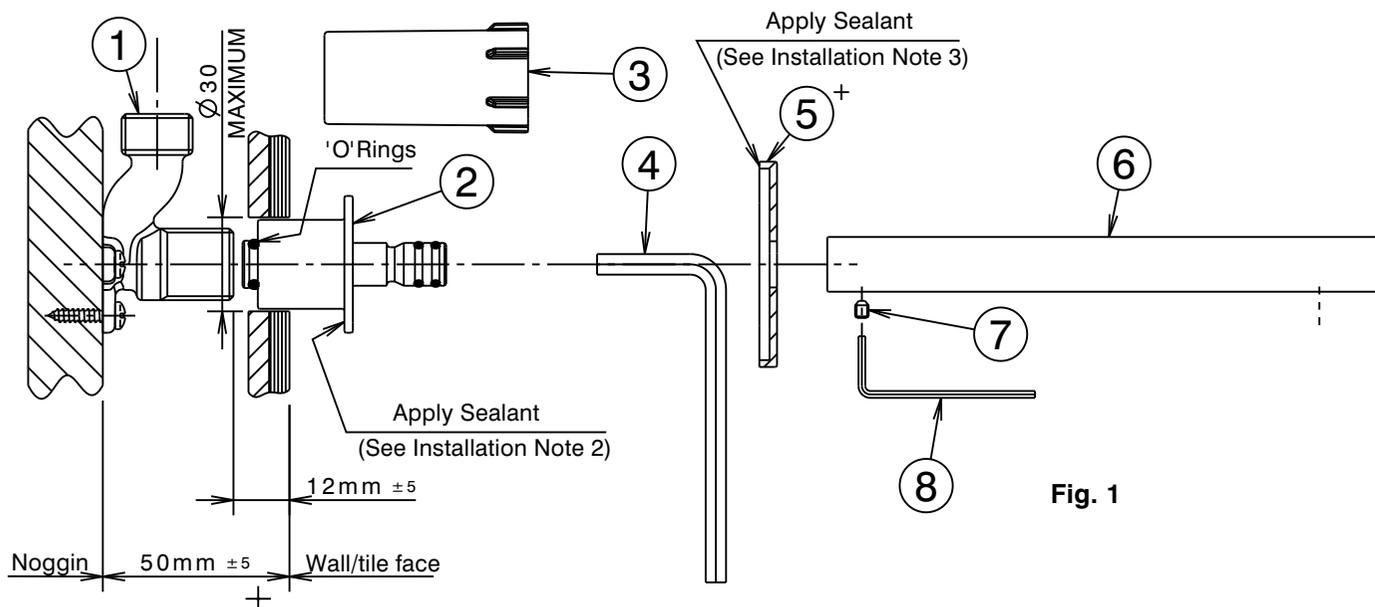

Fig. 1
- * Lugged elbow (1) must be installed square to the finished wall/tile face.
- * In- wall depth 50mm±5 (Fig.1).
- * Hole size 30mm dia MAX (Fig.1)
- * Rough- in cap (3) is provided to assist the tiler.
- * Due to the special in- wall requirements of this tapware, a special lugged elbow (1) is supplied and MUST be used for new installations.
- 2) When completing the installation, remove & discard cap (3). Apply a bead of sealant to the back face of retainer (2) (See Fig.1). Screw retainer (2) onto G1/2B thread of lugged elbow (1) by hand up to wall/tile face, taking care that 'O'Rings are not damaged as they enter bore of lugged elbow (1). Tighten retainer using 6mm allen key (4), so that sealant on retainer is compressed to provide a watertight joint & the retainer has bottomed against the wall/tile face.